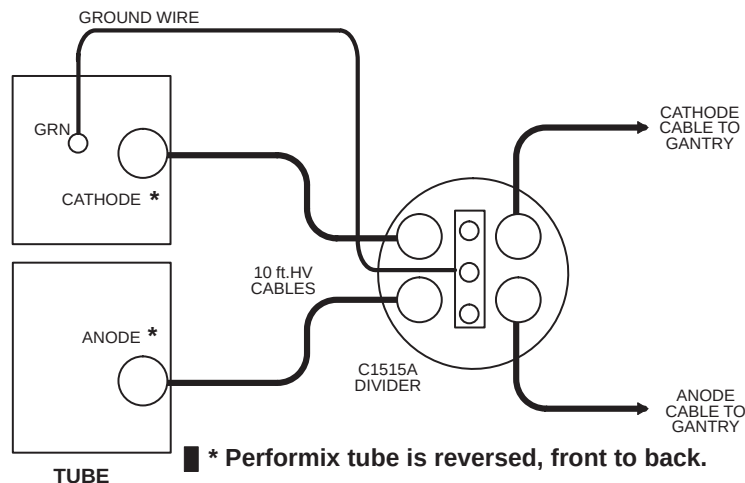

Figure 4-11 HV Divider Installation
- 2.) Add a ground wire (minimum size of AWG 12) from Tube ground to bleeder ground. Refer to Figure 4-11.
- d.) Remove the **HV** Divider between the Tube and Tanks (Figure 4-11, on page 38).